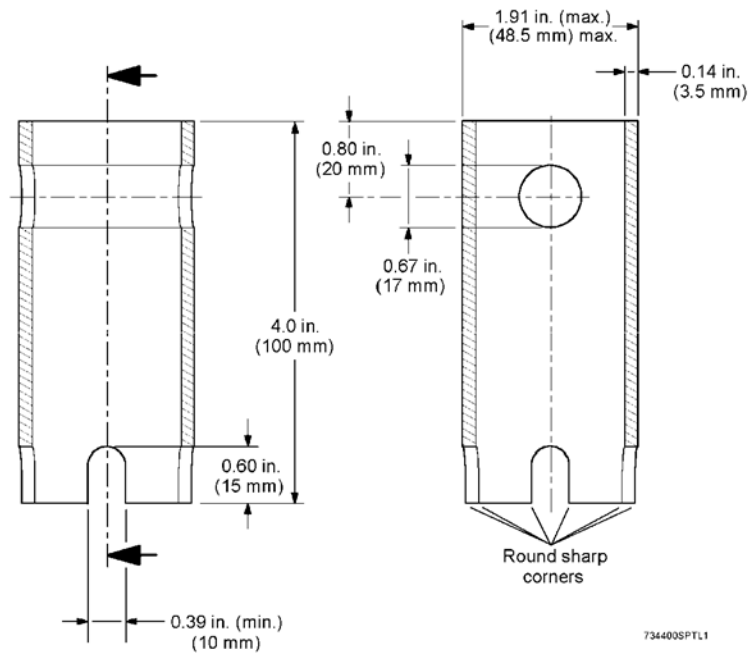

Figure 6: Service Portion Strainer Nut Wrench
- 5.2.1 A strainer nut wrench (See Fig. 6) and Standard box end wrenches or socket wrenches with wrench openings of 15/16" are necessary.
- 5.2.7 Single sided pipe brackets contain a filter that is located in the pipe bracket, behind the Emergency portion. Remove the filter element using strainer nut wrench (See Fig. 6).